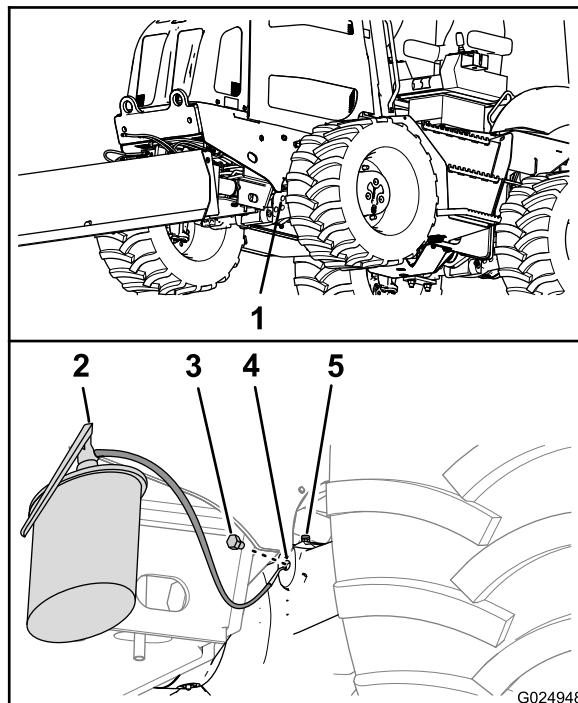
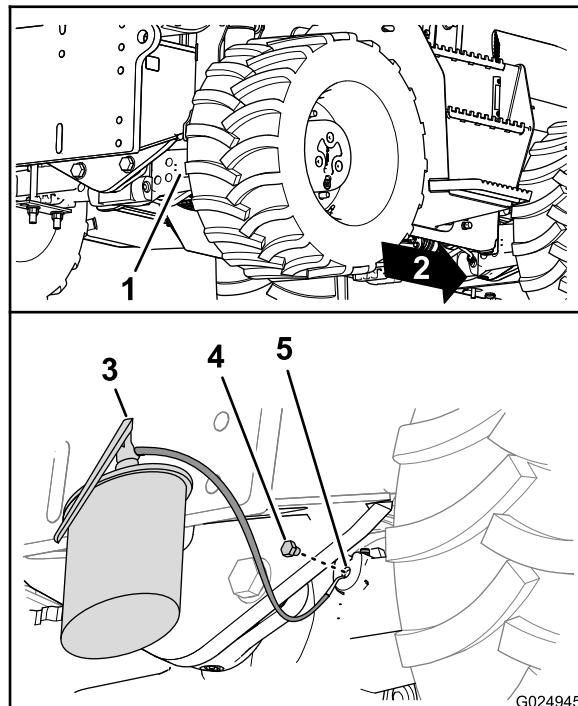

Figure 95
Figure 96
5. Install the drain plugs into the drain ports at the pinion housings (Figure 95 and Figure 96).
- Fill the axles with the specified oil through the sight port until the oil is level with the threads at the bottom of the port (Figure 95 and Figure 96).
- Install the fill plugs into the sight ports of the pinion housings for the axles (Figure 95 and Figure 96).